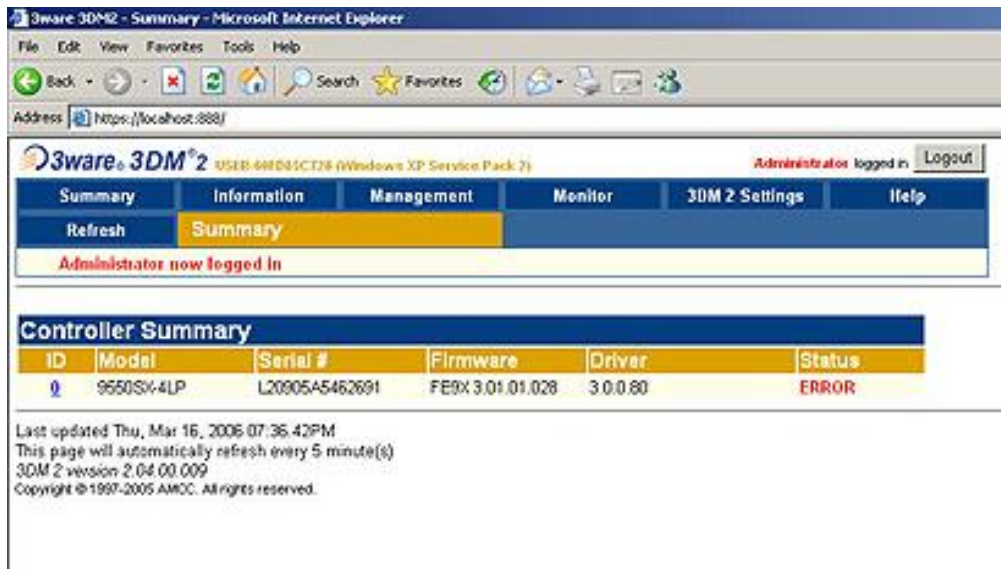

Figure 3-38.
- 7) After you have logged in as the administrator, you will see a status of ERROR in the 3DM 2 interface (Figure 3-38).